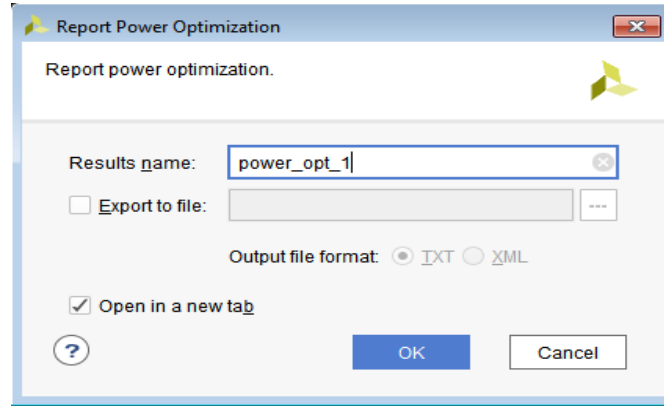

Figure 4-15: Report Power Optimization Dialog Box
3. In the Report Power Optimization dialog box (Figure 4-15), specify the following options.